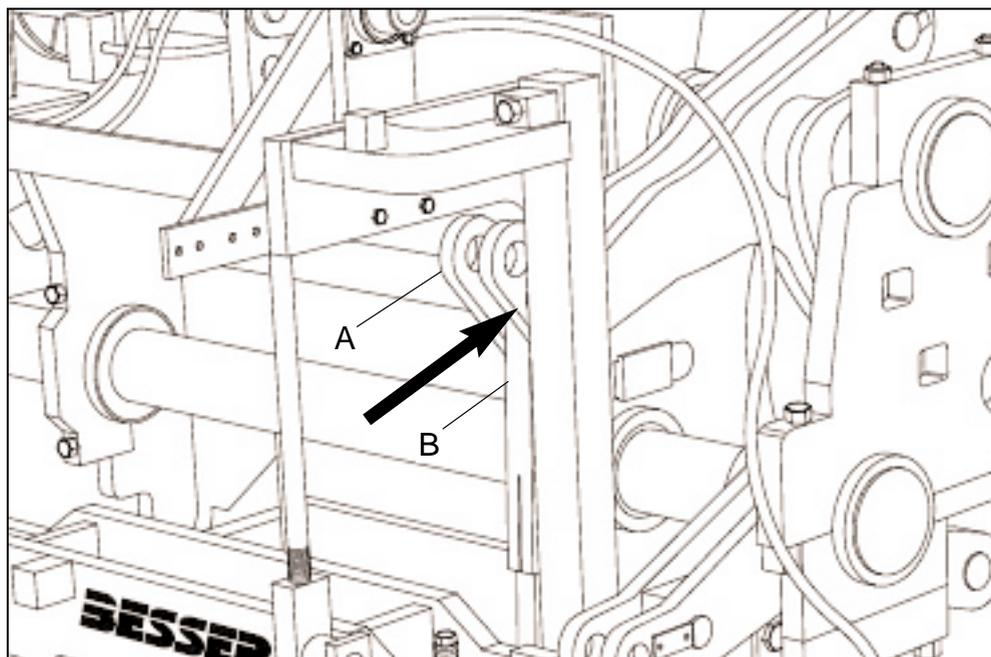

Figure 4.2 STRIPPER HEAD SHAFT AND LINKS.
b. Stripper head shaft (A) - position pins in inside holes (short stroke) (see figure 4.2).
c. Stripper head links (B) - position pins in top holes (see figure 4.2). Adjust links to obtain approximately **7 3/4" [197mm]** between link ends.